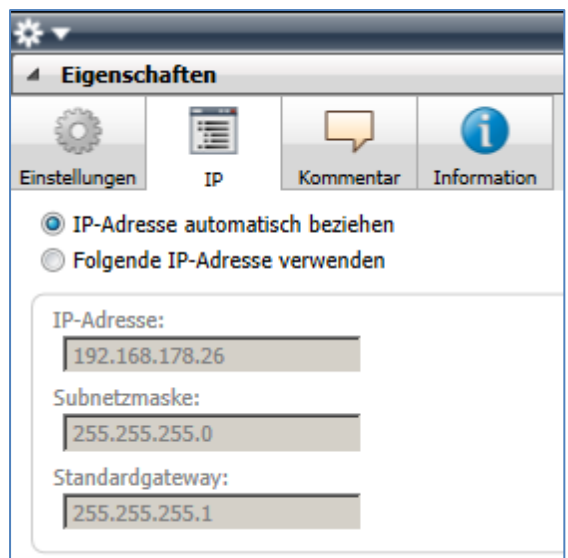

Figure 26: Setting of the IP address data of the device on the "IP" tab in the sidebar of the ETS
3. Select the "IP" tab as per Figure 26. Then select either